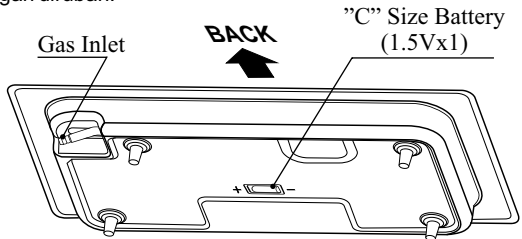

Fig. 6
- Battery box is located at right front of bottom side (Size C, 1.5V x 1). (Fig. 6)